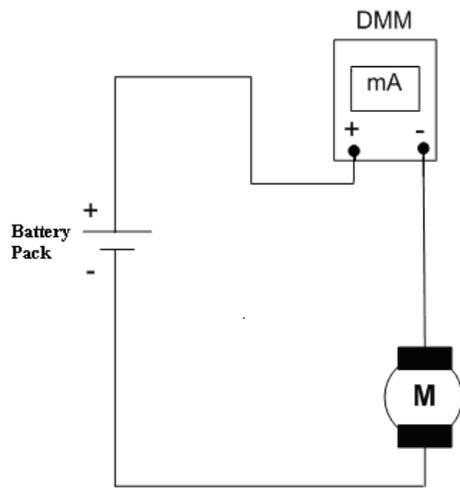

Figure 3.5: Measurement Circuit 200 mA setting
3. Use the protoboard to build the circuit shown in Figure 3.5. (Use the battery pack to power the circuit.) Set the DMM to the 200mA scale. Measure and record the current drawn by the motor.